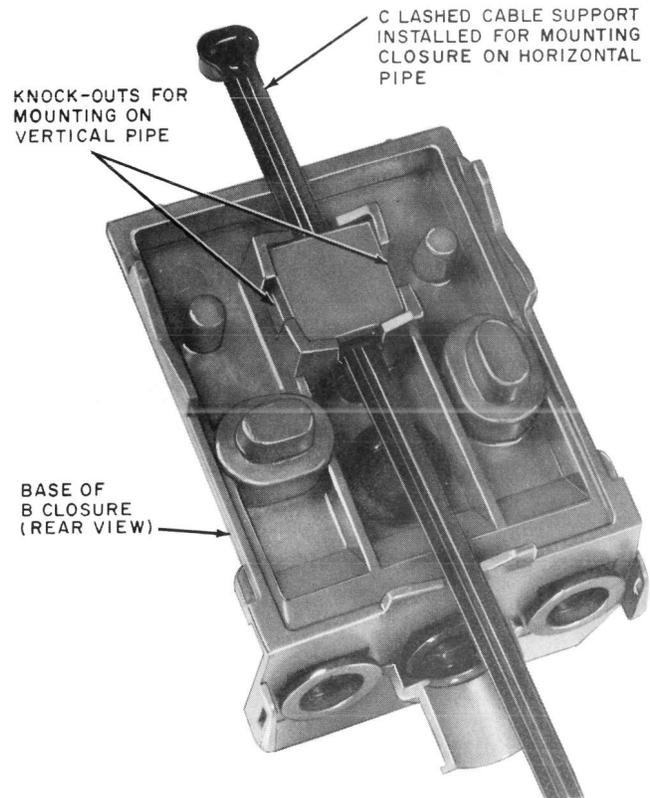

Fig. 29—Installation of C Lashed Cable Support on B Customer Service Closure
3.37 When a closure is mounted on a pipe, it should be attached with a C lashed cable support (Fig. 29). It will be necessary to break out either vertical or horizontal openings in the back of the closure with a screwdriver or similar tool.